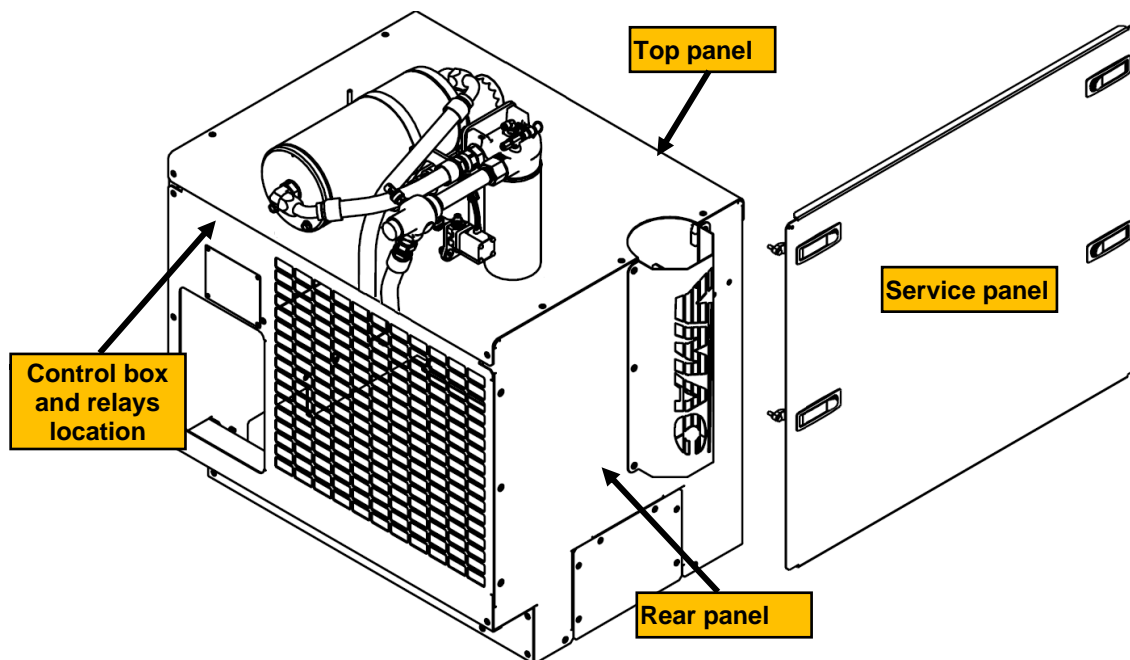

Figure 1 – Panel identification and relay location
- ☐ Remove the service panel, top panel, and rear panel from the Multifunction. (Figure 1)